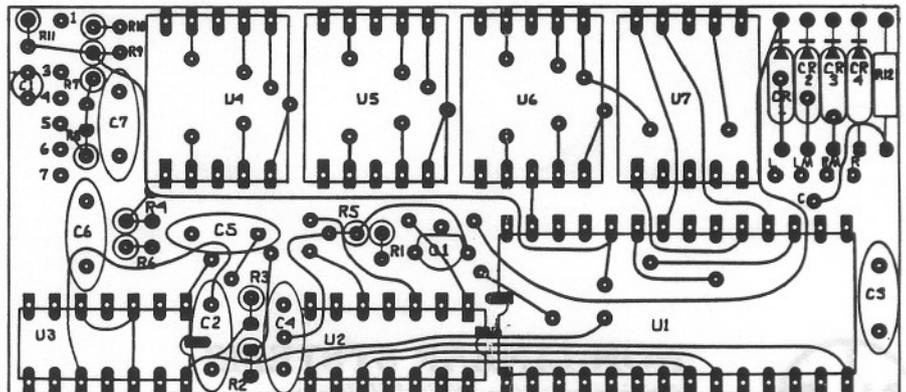

Figure 3. Component Location
c. Locate capacitor C7 (See figure 3).